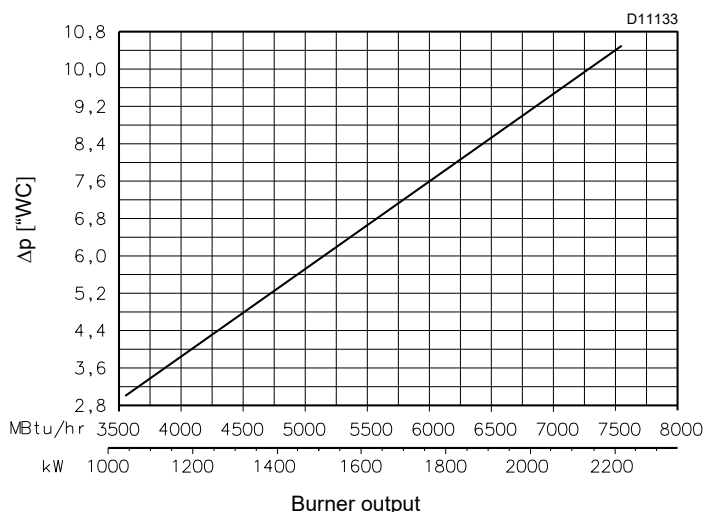

Fig. 28
- Find the nearest pressure value to your result in Fig. 28.